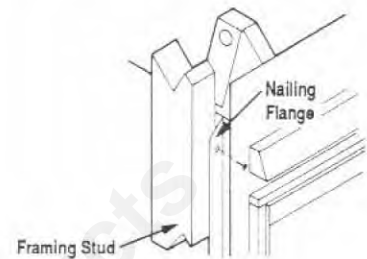

Figure 9
**Step 5.** Fireplace should be secured to side framing members using nailing flanges. Use 8d nails (Figure 9).